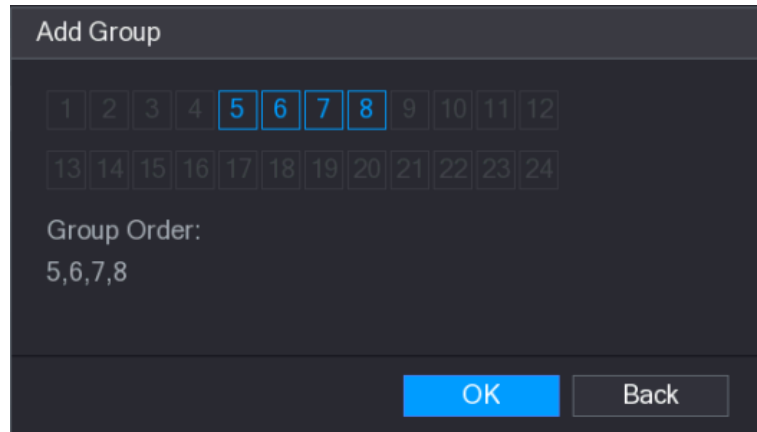

Figure 5-54
Step 2 Select the channels that you want to group for tour. See Figure 5-54.